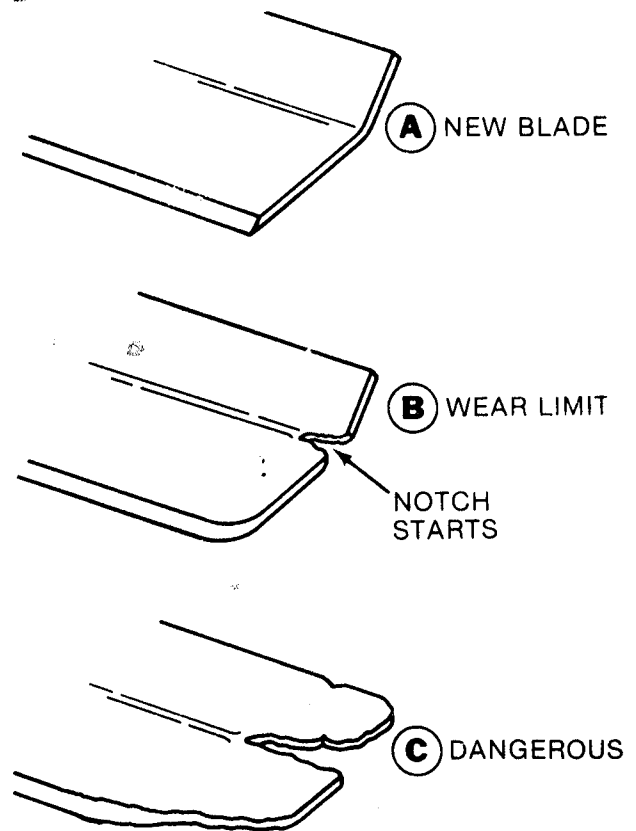

FIG. 10 - BLADE TIP WEAR PATTERNS
**REPLACE** blade if badly chipped, bent, out of balance or as soon as notch starts wearing in the tip between the flat surface and upturned lift as depicted in View B, Figure 10. This type wear pattern occurs more rapidly under sandy soil conditions.